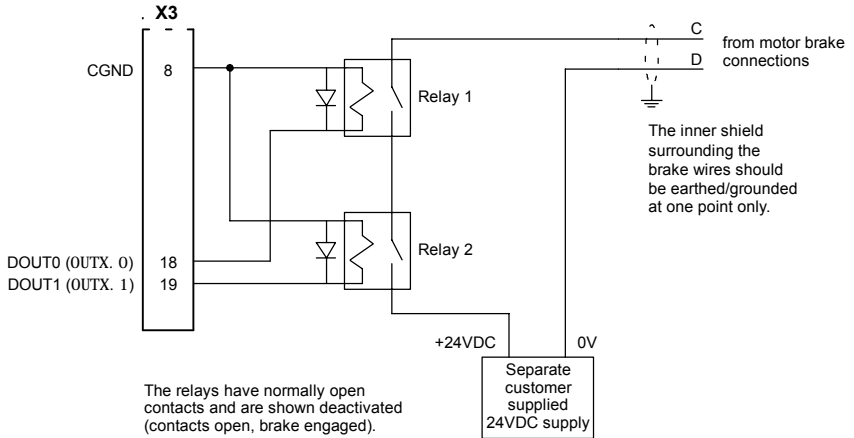

Figure 10 - Motor brake control circuit
You might wish to wire a motor's brake, via relays, to digital outputs on connector X3 (see section 4.3.1). This provides a way for the Mint program to control the motor's brake. A typical circuit is shown in Figure 10.
**CAUTION:** The 24VDC power supply must be a separate supply as shown in Figure 10. Do not use the 24V supply powering the FlexDriveII digital outputs, or the internally generated supply (if present). The brake wires often carry noise that could cause erratic drive operation or damage. The brake contacts must never be wired directly to the digital outputs. The relay(s) should be fitted with a protective flyback diode, as shown.